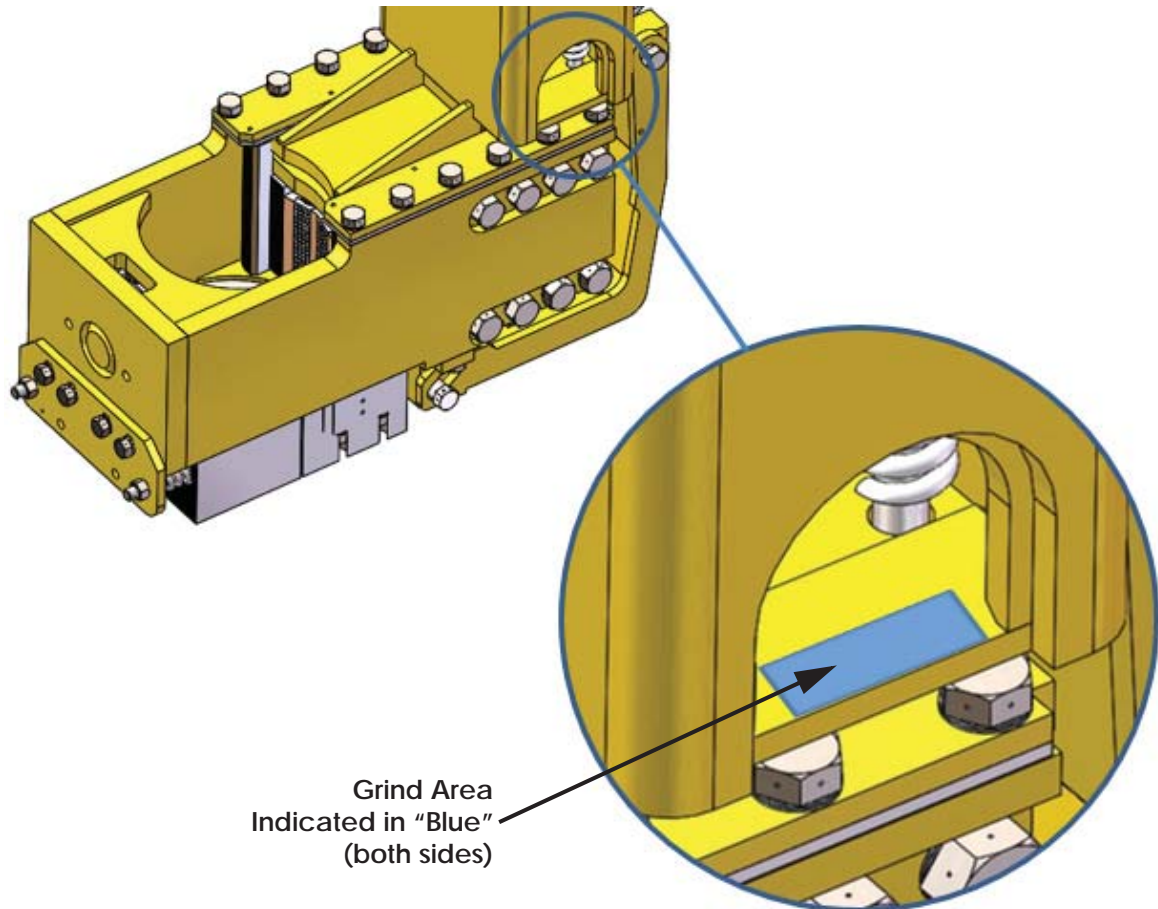

Figure 1: Grind Area indicated in Blue (Both sides)
2. Grind the top surface of the bottom plate on the BUW Positioner Inner Tube for weld preparation. See area shown in blue in Figure 1 on page 3. Repeat for both sides of the BUW positioner and ensure the surface area is free of paint, grease, oil, etc.